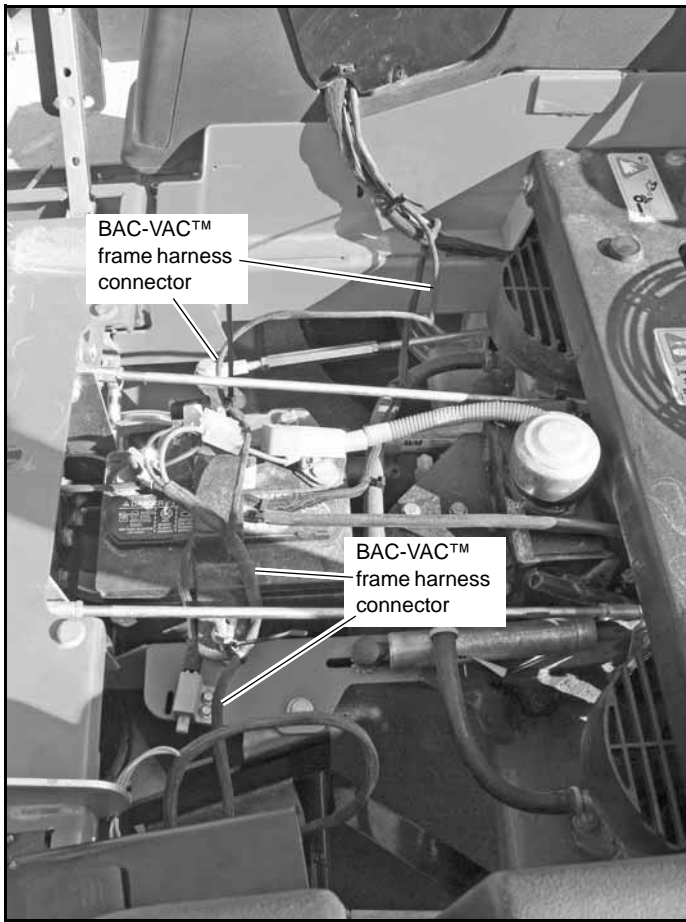

Figure 3-9
2. The BAC-VAC™ frame harness should be routed on the mower as shown. Figure 3-9
8. Route the BAC-VAC™ frame harness as shown and connect the appropriate wires to the battery terminals. Secure the BAC-VAC™ frame harness to the mower using the wire ties as shown. Make sure that none of the harness will come in contact with any moving parts. Figure 3-9